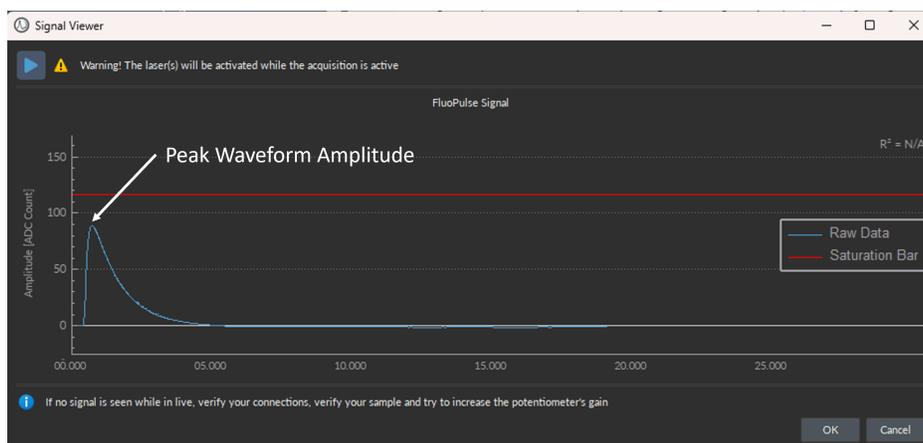
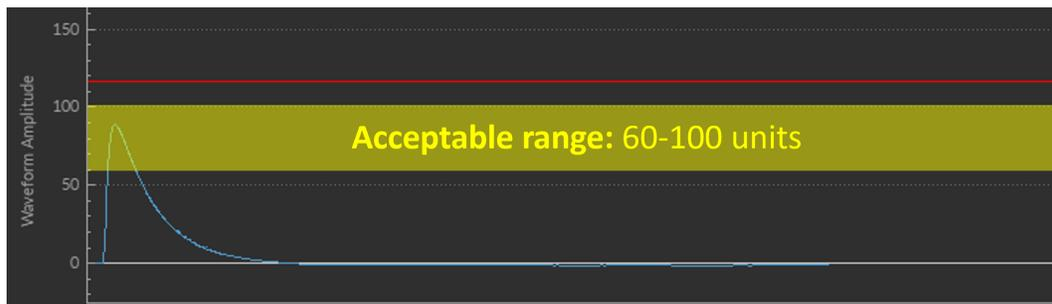

Figure 3.7: Signal Viewer - load current animal signal
Figure 3.9: Acceptable Waveform Amplitude - animal signal
4. Select the *Signal Viewer* button (Fig. 3.7). This view allows quick adjustment to optimize the laser attenuation and detector gain without having to take an IRF. It is very important to properly set the gain/laser power on the *FluoPulse™ cube* such that the amplitude waveform signal is within the optimal detector range.
5. Select the *Play* button (Fig. 3.7) to view the amplitude of the current signal arising from the animal.
6. Read the maximum value (i.e. amplitude) of the *Waveform Amplitude* graph. Fig. 3.7 display an example of optimal fluorescence lifetime waveform amplitude. **Values between 80-87 units are ideal** (Fig. 3.13), while values between 60-100 units are acceptable (Fig. 3.9). Picking the right amplitude for your experiment will depend on how you expect the amplitude (i.e. intensity) of the signal to change over time. **To start, choose a central value within the optimal range as a target amplitude**, such as 83 units.
Repeat these steps until you reach a waveform with an amplitude in the Optimal/Acceptable Range (Fig 3.9).